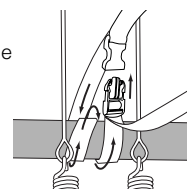

Fig. 1
3. To help protect the quick-release buckle, wrap the connecting strap once around the moveable part of the bed frame prior to securing the buckle (See Figure 1).